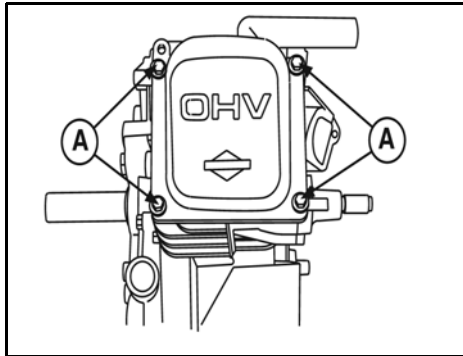

Figure 20
1. Remove four screws from rocker cover, then remove cover and gasket (A, Figure 20).